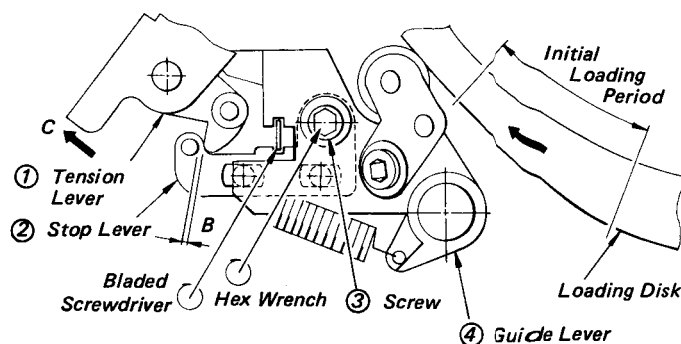

Fig. 5-88 Tension Servomechanism Operation Checking in Tape Loading
28-2. Checking the Tension Servomechanism Operation in Tape Loading (Fig. 5-88)
3. In such operations, make certain that the tension lever ① of the tension servomechanism that operates in the first period of tape loading cannot be interfered with the post of the stop lever ②.
5. Make certain that the clearance B between the tension lever ① and the post of the stop lever ② is 0 to 0.3 mm (see Fig. 5-88).